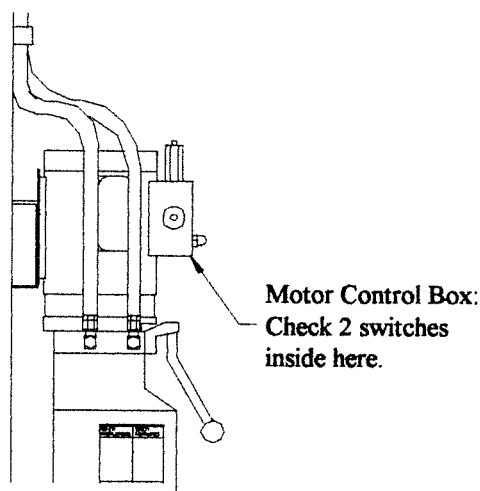

FIGURE 16
- ◆ Check adjustment of overhead cable and micro-switch in motor control box. Figure 16. If the cable holds the plunger off of the micro-switch the circuit is broken and the cable has too much tension. The cable needs to be readjusted.
- ◆ Check micro-switch in motor control box. Figure 16.